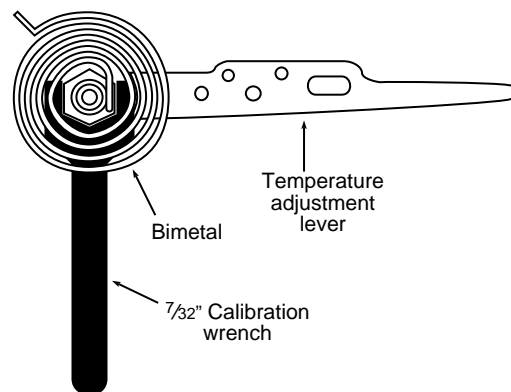

Figure 10. Calibrating thermostat
3. Remove thermostat cover. Slip  $\frac{7}{32}$ " wrench onto hex nut beneath bimetal. While holding temperature adjustment lever stationary, turn hex nut clockwise until mercury shifts to the right end of the tube (see fig. 10).
7. Slip  $\frac{7}{32}$ " wrench onto hex nut. While holding temperature adjustment lever stationary, turn hex nut counterclockwise until mercury just barely shifts to the left end of the tube (see fig. 10).